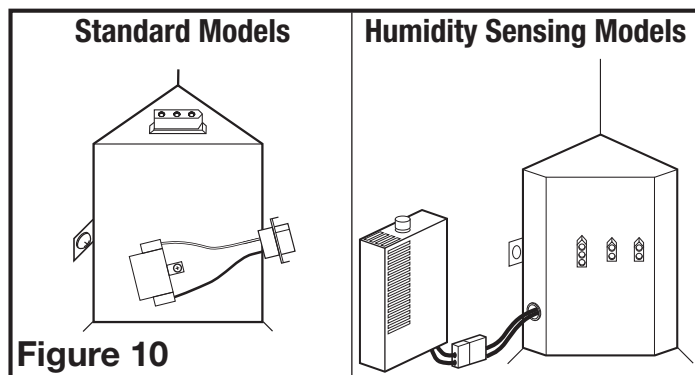

Figure 10
- 3a. **STANDARD MODELS:** Plug the fan's 2 pin and 3 pin quick connect motor cords into the corresponding receptacle located on the wire compartment cover. These cords will only fit one way into the receptacles (**Figure 10**).
- 3b. **HUMIDITY SENSING MODELS:** Plug the fan's 2 pin and 3 pin quick connect motor cords into the corresponding receptacle located on the wire compartment cover. Connect the two pin connector from the humidistat compartment to the two pin connector from the side of the wire compartment cover. These cords will only fit one way into the receptacles (**Figure 10**).